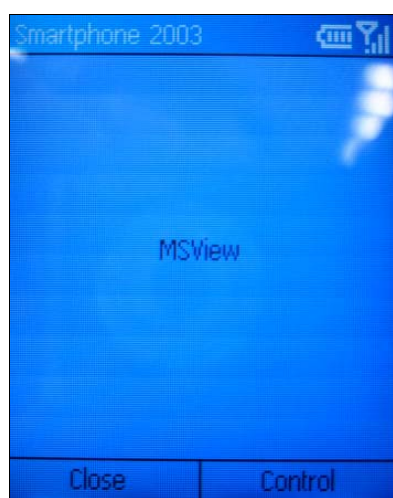

Figure 6-56 MSView Main Screen
1. Execute **MSView.exe** in your smartphone. Figure 6-56 appears.